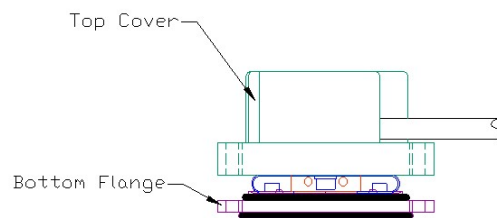

FIG. 1
Step 1. The encoder housing is comprised of a bottom flange, or base and a top cover (see Fig. 1). These two are loosely held together and care should be taken not to apply undue stresses while the assembly is in this state. They are not to be taken apart, doing so will break the sealing around the cable, creating an area for ingress of contamination.